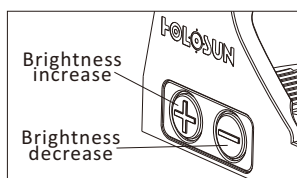

Fig 6
- 1. Switch on:** Press and release either brightness button ("+" or "-") to turn on the sight, See Fig 6.